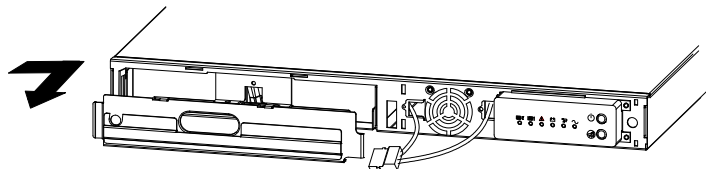

Figure 27. Removing the Battery Cover
3. Remove and set aside the battery cover (see Figure 27).